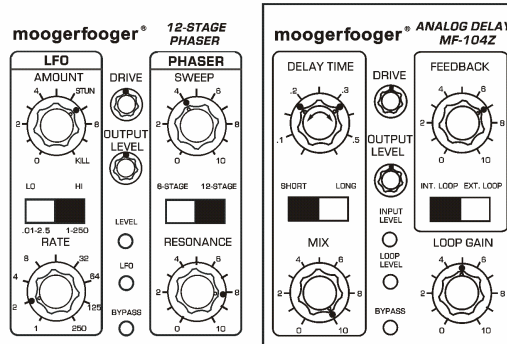

Figure 8 - Setup for Swirling Echoes
**SWIRLING ECHOES (PHASER AND ANALOG DELAY; FIGURE 8)**